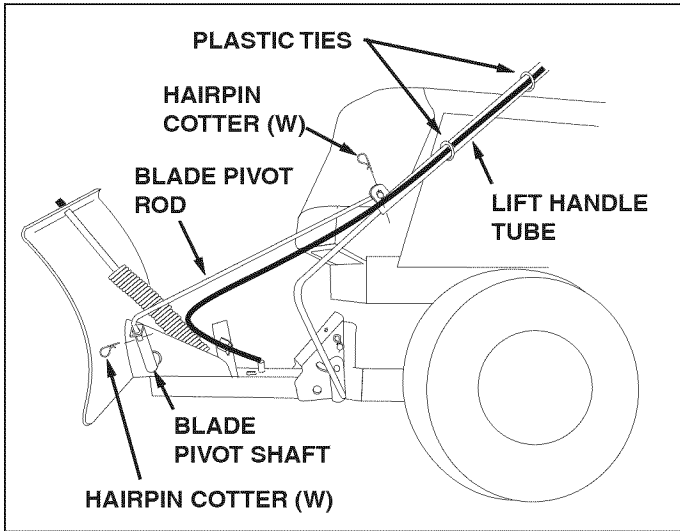

FIGURE 26 (Left Hand Side View)
STEP 12: (SEE FIGURE 26)
- Place the end of the blade pivot rod down through the blade pivot shaft. Attach the other end of the blade pivot rod to the lift handle tube. Secure both ends with a hairpin cotter (W). The holes for the hairpin cottes should be parallel to the ground.
- Remove the hairpin cotter which fastens the blade pivot rod to the blade pivot shaft. See figure 26 on page 13.